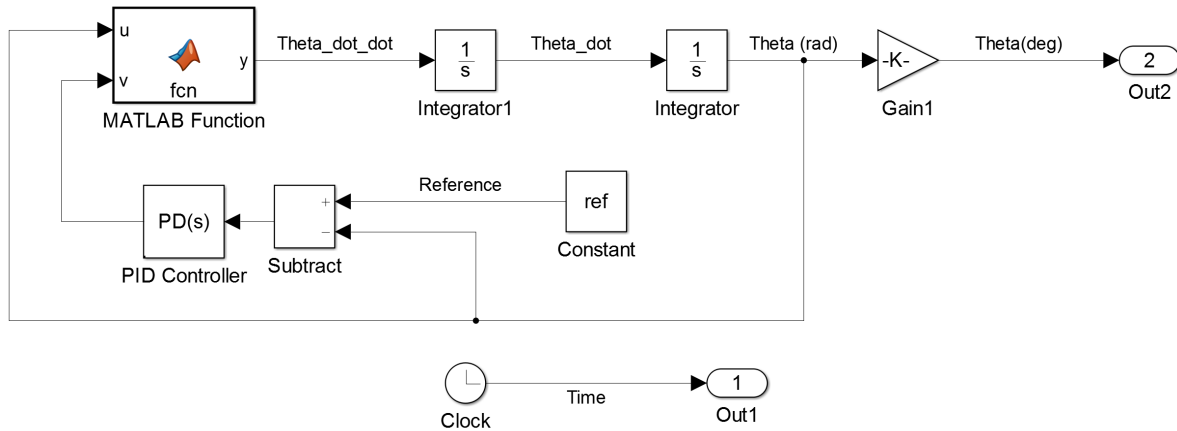

Figure 6.10: Simulink Model of inverted pendulum
In this case, we will use proportional-derivative (PD) control to set the link pointing straight up at $\theta = 180^\circ = \pi$ rad. Set up the system as shown in Fig. 6.10.